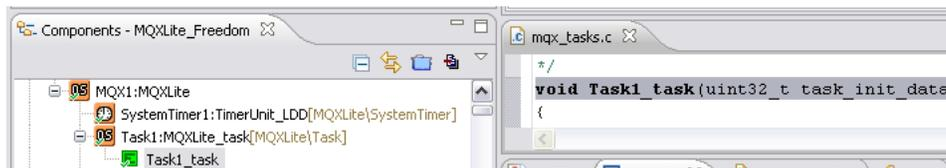

Figure 32. Accessing the MQXLike task source code
1. All this should happen in the MQXLite task. Expand the MQXLite component until you reach the “Task1_task” subcomponent. Double click on it to make the source code appear at the right hand of the screen. Figure 32 is an example of how it looks.